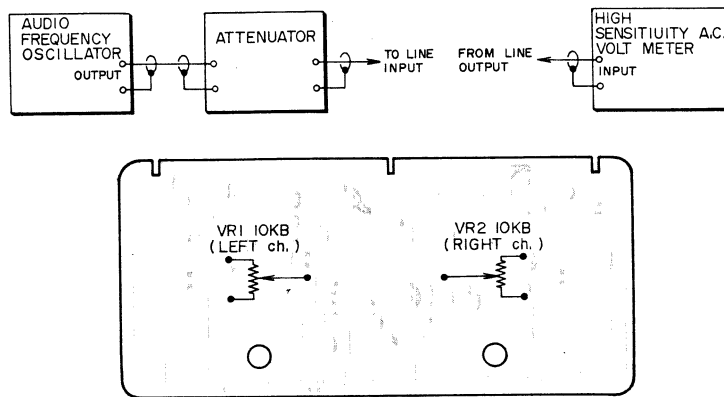

Fig. 14
4. PEAK LEVEL INDICATOR LIGHTING LEVEL ADJUSTMENT (Refer to Fig. 14)
- 1) Connect measuring instruments as shown in Fig. 14 above.